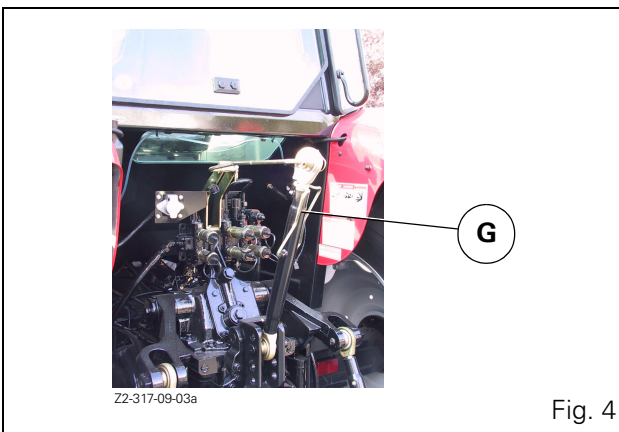

Fig. 4
4. Top link (1 grease nipple) (Fig. 4)